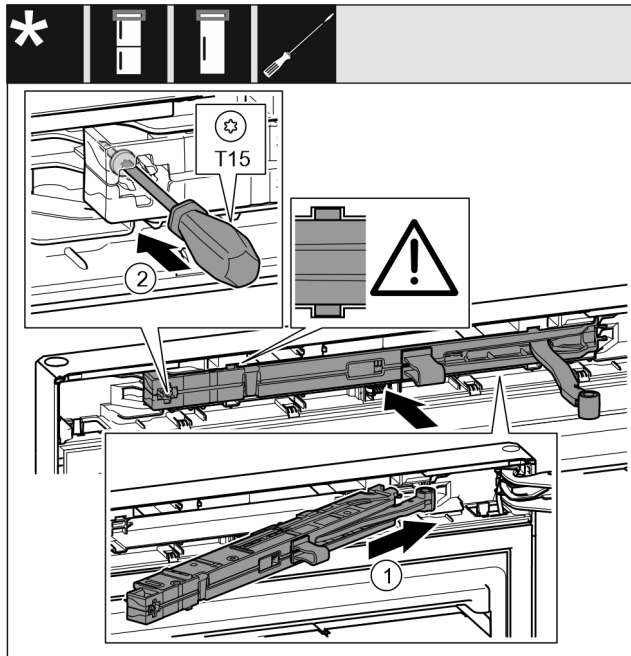

Fig. 47
- Slide the soft stop mechanism on the bearing bracket side at an angle into the recess as far as it will go. Fig. 47 (1)
- Tighten the screw using a T15 screwdriver. Fig. 47 (2)